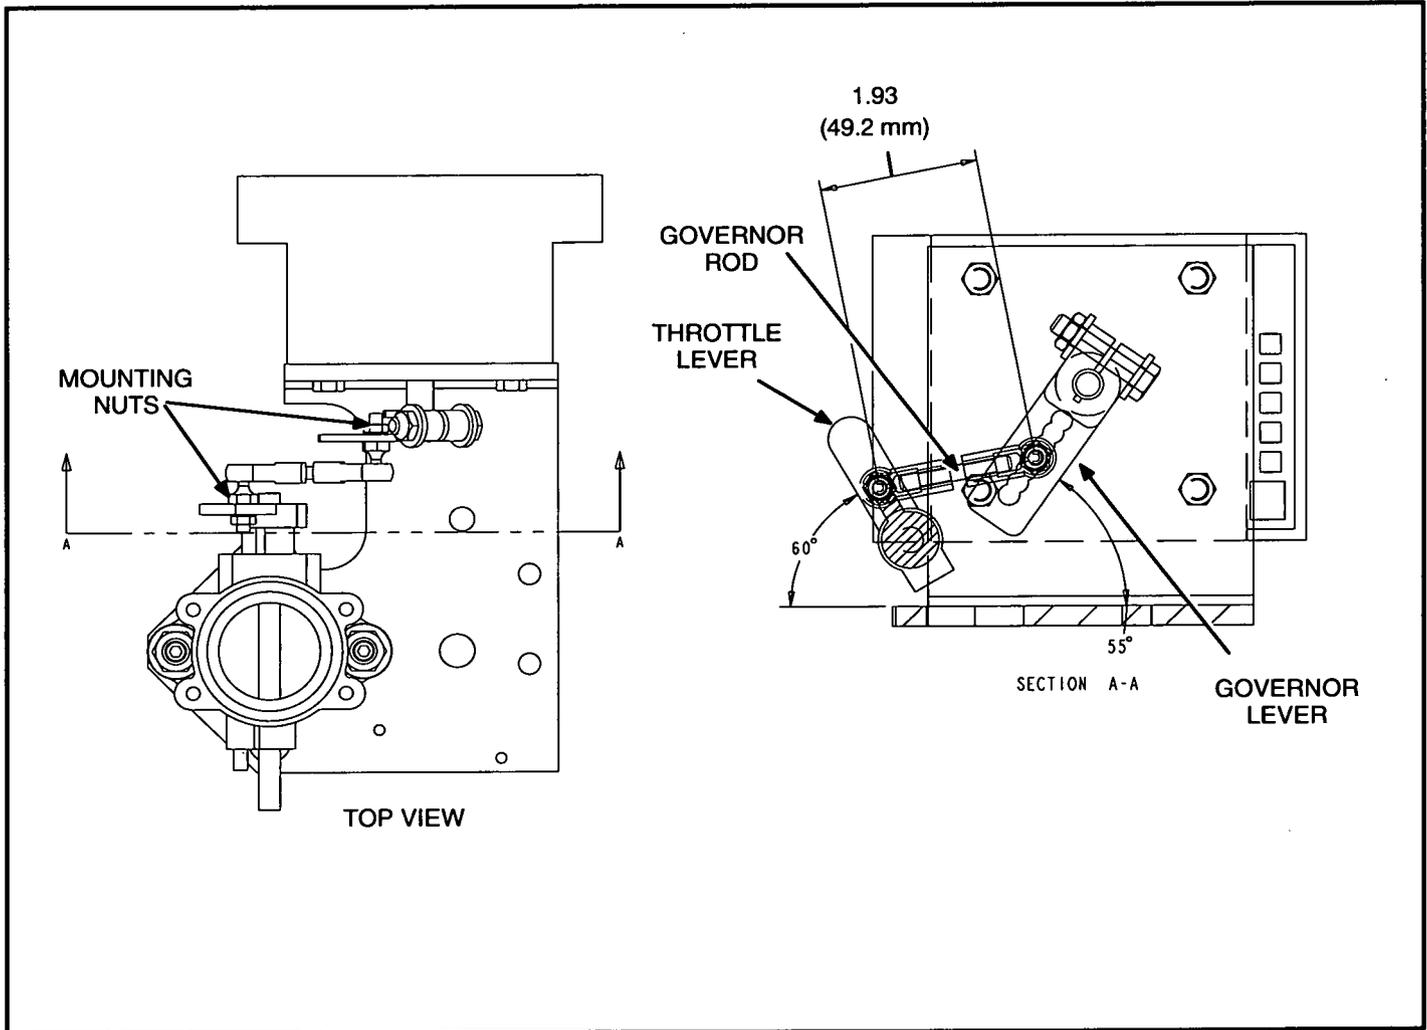

FIGURE 10. GOVERNOR LINKAGE
Figure 10 illustrates the governor linkage. Make sure that the governor controller is securely mounted to the engine bracket. The following instructions describe adjustment and removal of the governor linkage.
2. If the governor rod is being replaced, pull it off at the ball joints or remove the ball stud mounting nuts. Make a preliminary adjustment to the replacement governor rod length as shown in Figure 10.